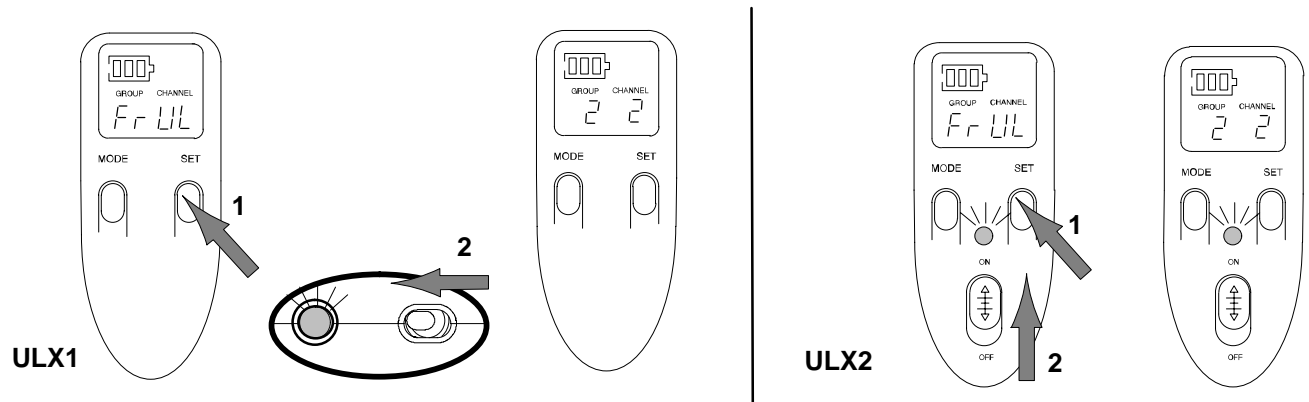

FIGURE 33
3. Slide the power switch back to the ON position. "Fr UL" will appear on the transmitter display, indicating that the frequency setting is unlocked. The current frequency Group and Channel will then appear. See Figure 33.